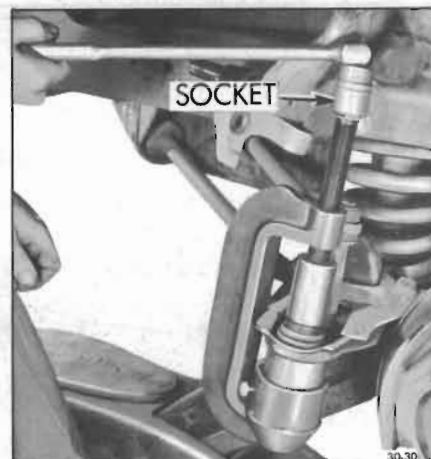

Figure 30-30—Removing Lower Ball Joint
7. Tighten Detail J-9519-8 with a socket and handle as shown in Figure 30-30 until ball joint is forced out of the lower control arm.